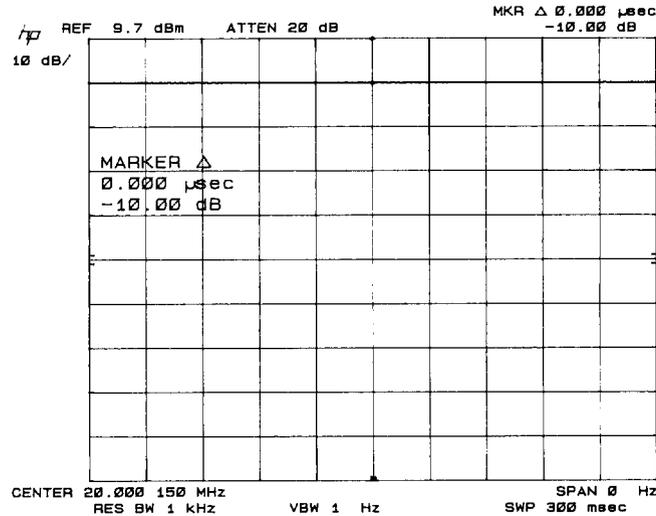

FIGURE 12. SCALE FIDELITY MEASUREMENT
6. Press **MARKER** **Δ** . Step the frequency synthesizer output amplitude from +10 dBm to -80 dBm in 10 dB steps, noting the **MARKER Δ** amplitude (a negative value) at each step and recording it in column 2 of Table 12. Allow several sweeps after each step for the video filtered trace to reach its final amplitude (see Figure 12).